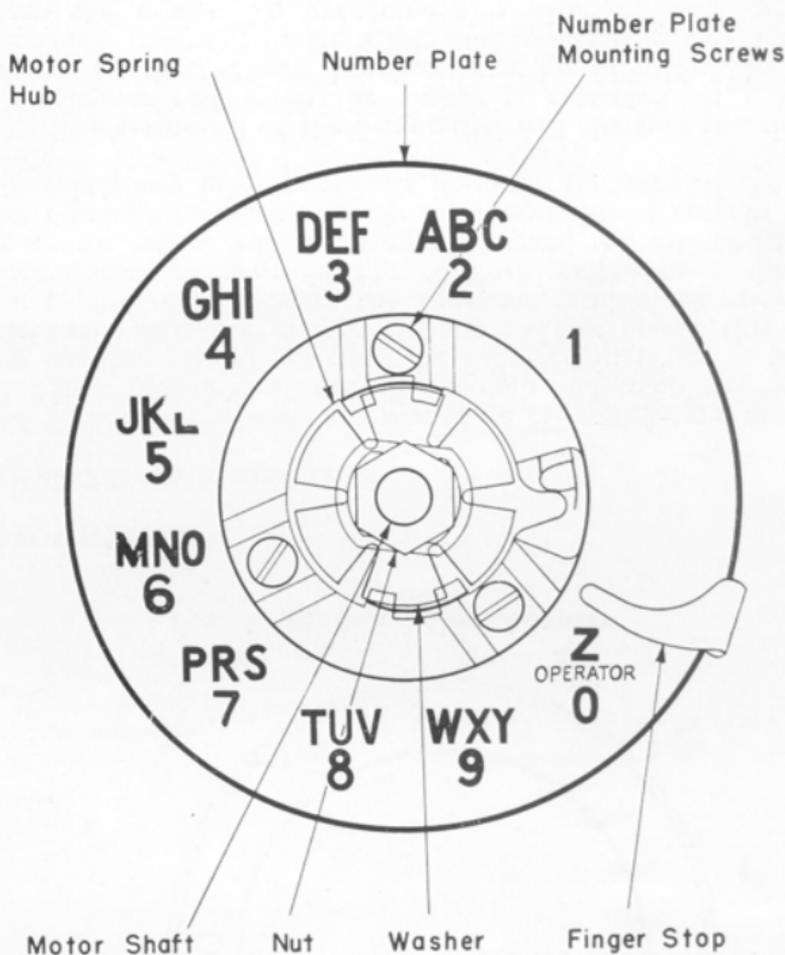

Fig. 4—6-Type Dial
8.03 To change number plate on the 6-type dial, remove card holder, finger-wheel nut, finger wheel, and the three exposed screws as shown in Fig. 4. See 7.01 before removing finger-wheel nut. If P-164A or P-164B number plates are used